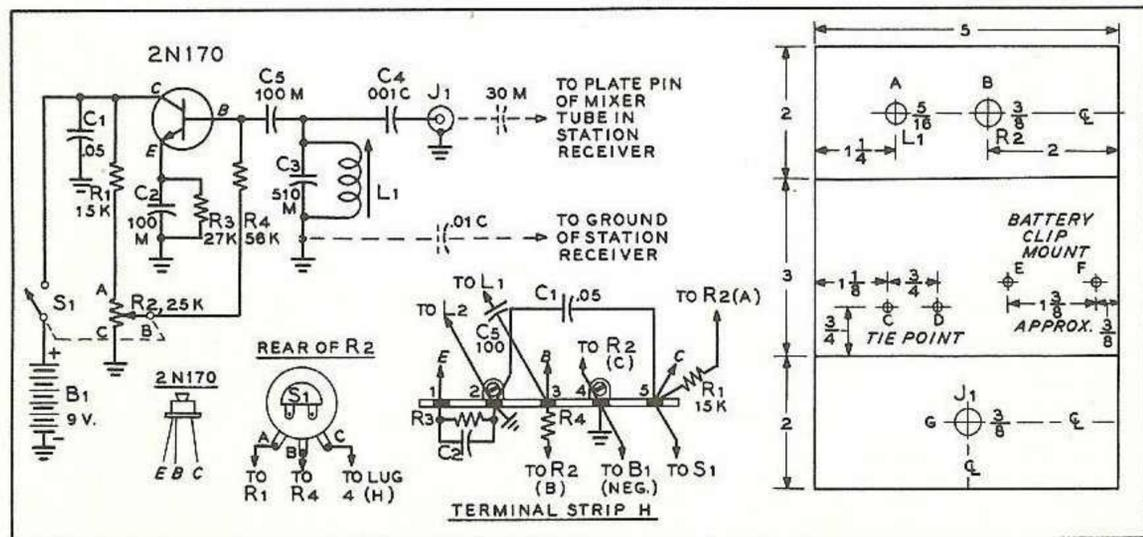

Fig. 24 Schematic of T-QM. Feedback is controlled by size of capacitor C5, which may be increased in value if greater selectivity of the T-QM is desired.
The circuit of the transistorized Q-multiplier is shown in Figure 24. A
- ( ) Mount the 5 terminal phenolic tie-point strip (H) in holes C and D.
- ( ) Connect the negative terminal of the battery to lug 4 (see Figure 24) of strip H (ground).
- ( ) Connect terminal C of potentiometer R2 (Figure 24) to lug 4 of strip H.